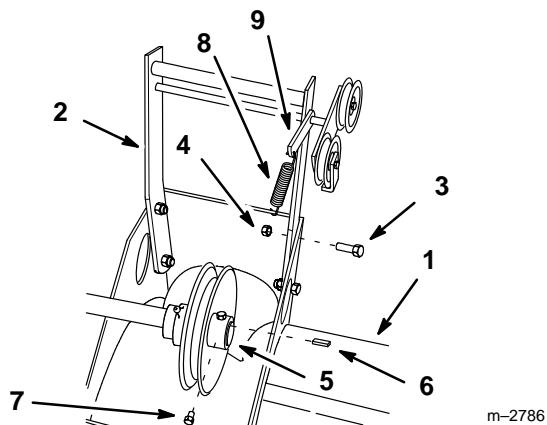

Figure 1
1. Tip housing onto front and insert frame into snowblower with angle bend up (Fig. 1). Fasten frame with (4) 3/8 x 1" bolts (heads to the outside) and (4) 3/8" locknuts.
2. Install pulley so hub is flush with end of drive shaft (Fig. 1) and secure with square key and (2) square head set screws.
3. Install tension spring between frame and idler arm (Fig. 1).